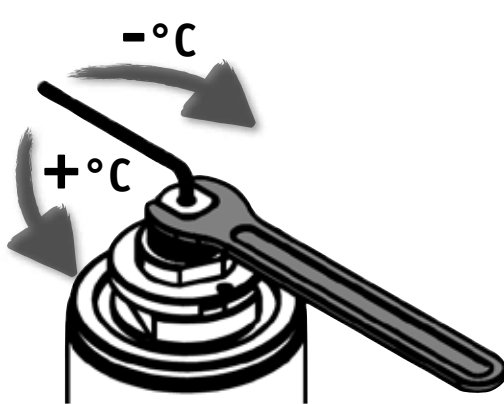

Fig. 12
5) Insert 2.5mm ALLEN KEY into the RING NUT 14 at the top of the CARTRIDGE 15 and whilst holding ALLEN KEY firm, loosen the RING NUT 14 using 13mm SPANNER (fig. 12)
6) Turn ALLEN KEY anti-clockwise to increase water temperature, or clockwise to decrease temperature, until outlet temperature is within 39-41°C (Fig. 12)